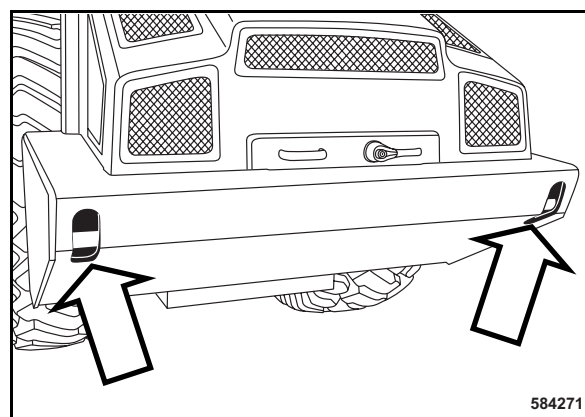

Fig. 107
- Fasten the towing device reliably on the towing points (Fig. 107).